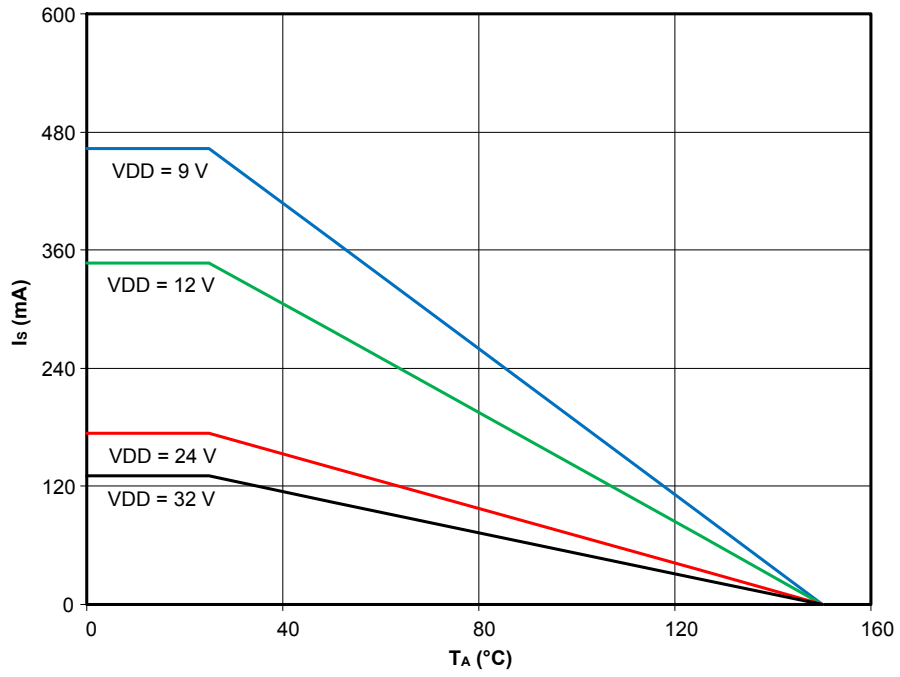

Figure 5.3. Safety Current ( $I_S$ ) vs. Ambient Temperature ( $T_A$ ) Derating Curve
**Note:** Maximum value allowed in the event of a failure; for more information, see Thermal Derating Curve Figure 5.3 on page 52.